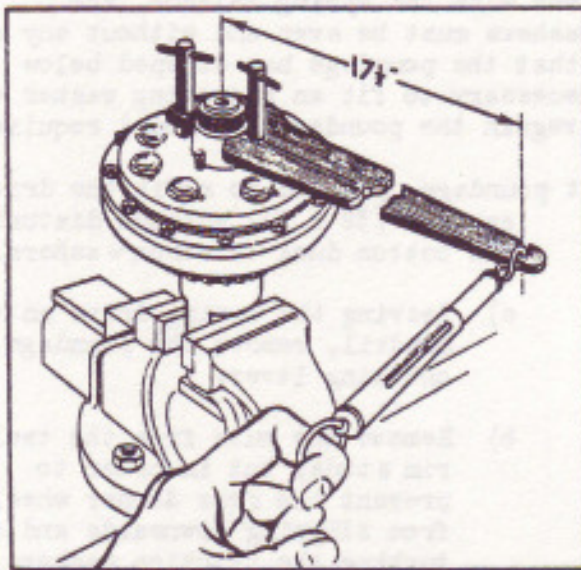

FIG. 26. CHECKING DAMPER POUNDAGE.
- (x) Attach poundage testing lever to spring drive as shown in Fig. 26 and with the lever, rotate damper wheels backwards and forwards through the limit of their travel for about 15 to 20 minutes in order to iron the washers. NOTE: The recommended slipping load of the damper wheels is 14-lbs.+ 1-lb. (6.35 Kgs) applied at a radial distance of 17 1/2" (44.45 cms). The load is checked with the spring drive assembled but less the driving springs (32 & 33).
The above represents the force necessary to overcome the friction between the cotton duck washers and the corresponding friction faces of the friction drum, the rear damper wheel and the presser plate. The effort required to overcome the frictional drag exerted by the damping springs (20) is measured on a spring balance (See Fig. 26).